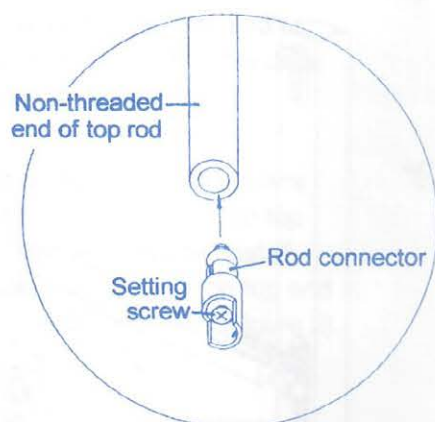

Figure 10
4. Insert rod connector into the non-threaded end of top rod and fasten the setting screw securely. (See Fig. 10.)